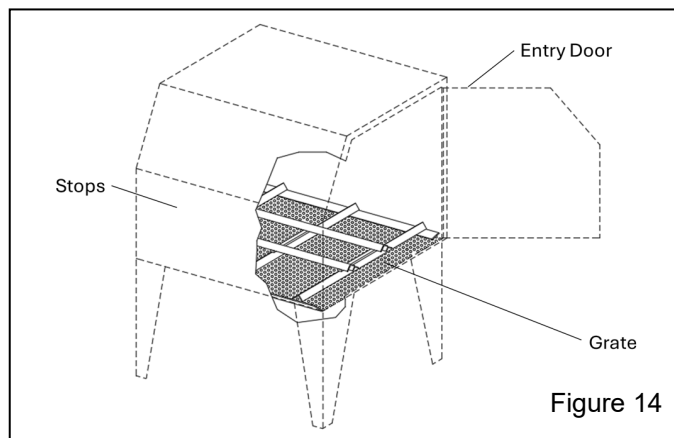

Figure 14
Installation note: The track may be placed on either side of the cabinet, allowing entry through either the right side or left side door; the right side is shown in the illustrations. When installing the inside track, place it so the stops are opposite the entry door, as shown in Figure 14.
3.5.2 Place the inside track in the cabinet over the existing grate, as shown in Figure 14. The workcar stops must be on the opposite side from the entry door.